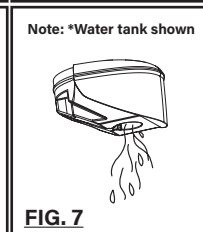

FIG. 7
Step 6 - Always pour out the remaining water after use. (Fig. 7)